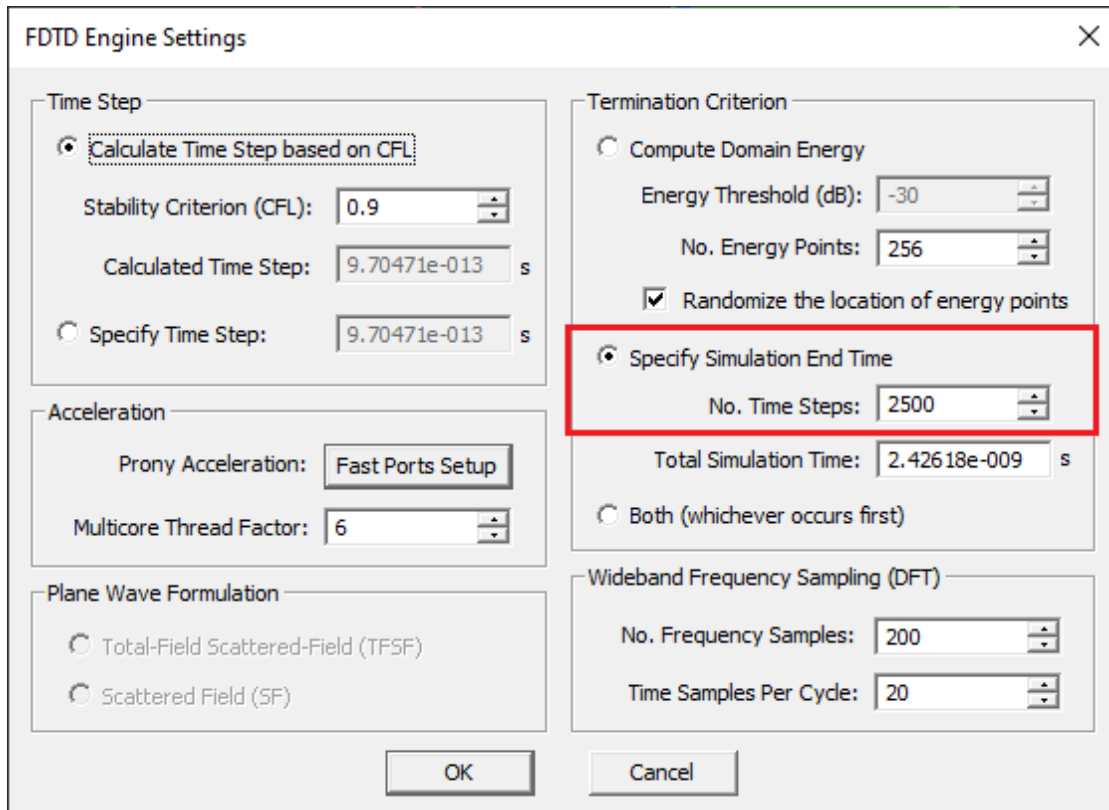

Figure 5. Changing the Termination Criterion to a fixed No. Time Steps.
- Change the Termination Criterion to a fixed **No. Time Steps** equal to 2,500 (see Figure 5).